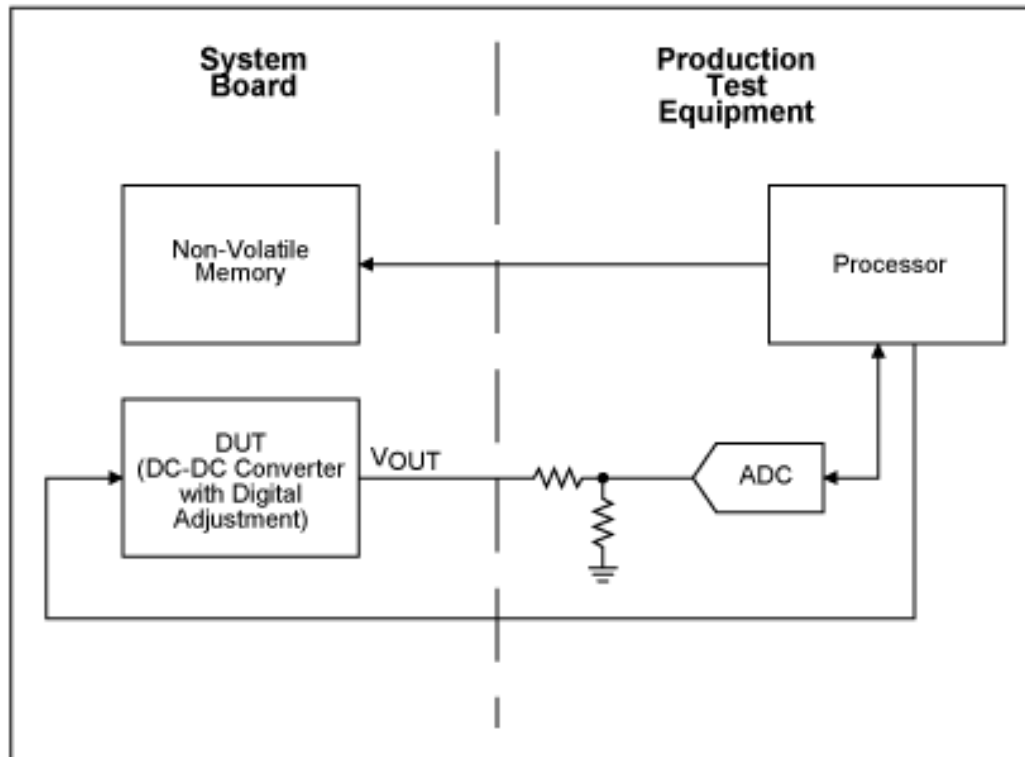
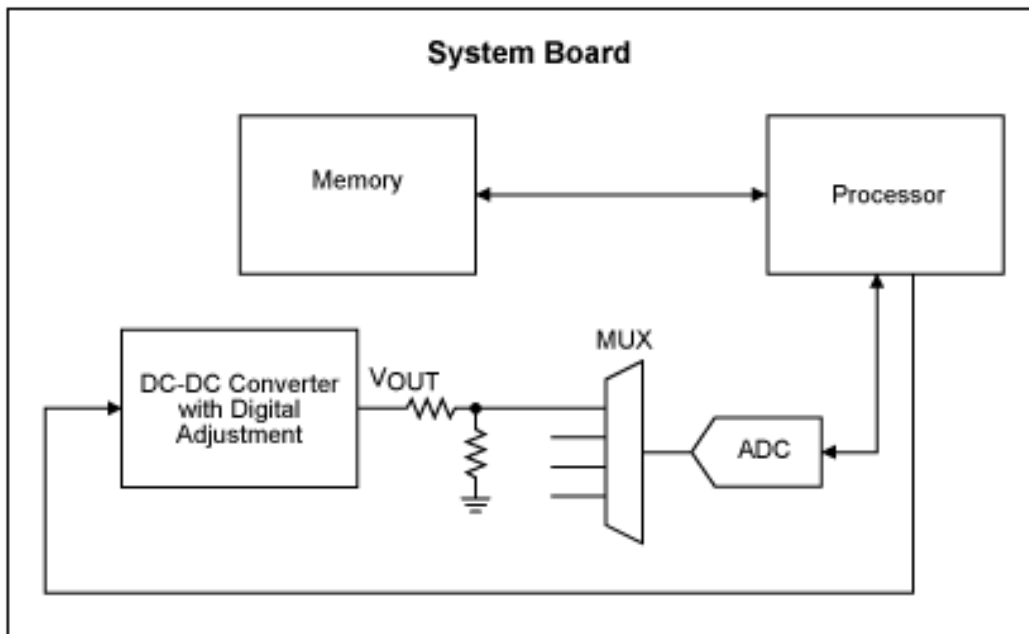

Figure 4. Measuring error of DC-DC converter and digital adjustment circuitry at production test.
Figure 5. Measuring output of DC-DC converter and digital adjustment circuitry with on-board ADC.
- **End-to-End Resistance Initial Accuracy:** This error source is generally the largest, and will have the greatest effect on overall system accuracy. Digital potentiometers can have initial errors as large as $\pm 25\%$. This initial error must be calibrated out. Calibration usually happens at production test, or an in-system ADC can compensate for it, if one is available. See Figures 4 and 5 and "Compensating for Errors in Digital Adjustment Circuitry" below.
There are two common methods for overcoming the inaccuracies of the digital circuitry used to adjust the DC-DC converter (see Figures 4 and 5). Both involve measuring the output voltage of the DC-DC converter using an ADC, and using that measurement (or measurements) to compensate for the initial errors of the digital adjustment circuitry, and of the DC-DC converter.
One method uses the ADC on the system board (Figure 4), while the other uses the ADC on a piece of production test equipment (Figure 5). Each method has its own advantages and disadvantages.